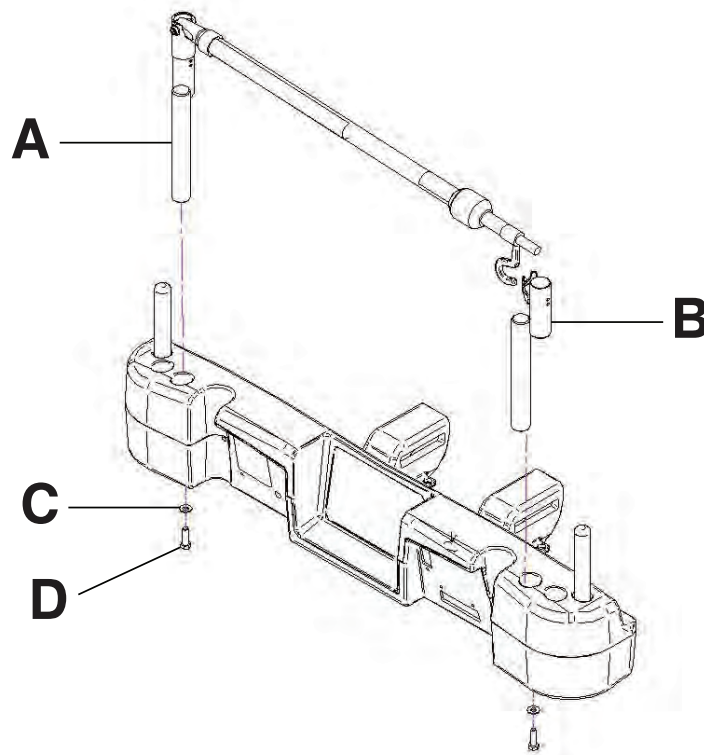

Figure 119: Single two stage IV pole (Left side shown)
1. Using a 3/8 in. drive ratchet and a 1/2 in. socket, install one washer (C) and one bolt (D) to secure the IV pole into the socket at the head end of the product (A) (Figure 119 on page 103).
2. Using a 3/8 in. drive ratchet and a 1/2 in. socket, install one washer (C) and one bolt (D) to secure the IV pole support into the socket at the head end of the product (B) (Figure 119 on page 103).